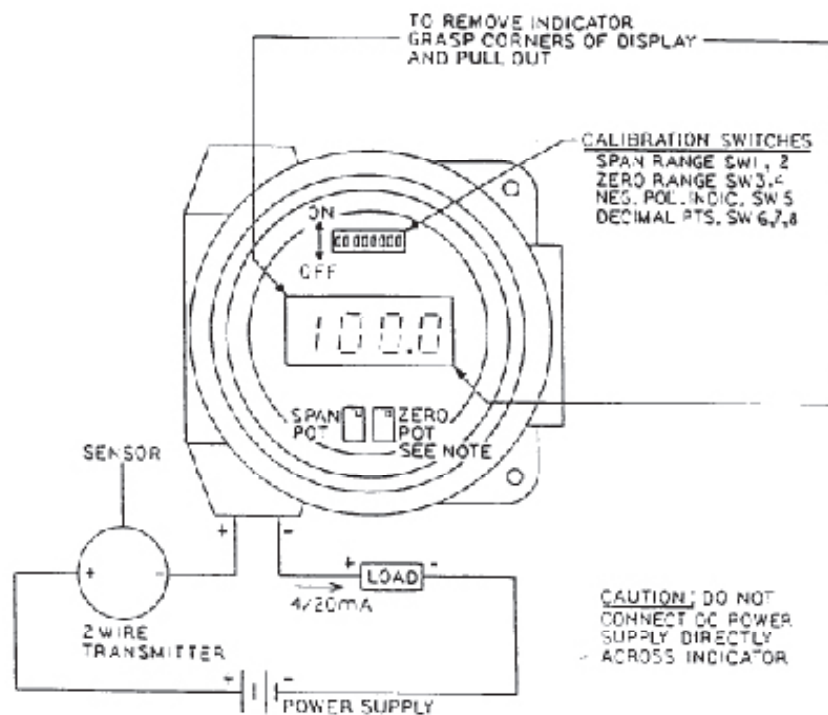

Fig. 2 Typical Field Wiring Connections and Location of Calibration Switches and Pots
To calibrate the LPM200, remove the front cover and label to expose the calibrating switches, and the span and zero pots located on the top PC board (Figs. 2 and 3). Input a 4 to 20mA signal and calibrate the indicator as follows:
1. Set the calibrating switches (Fig.2) for the desired span and offset ranges as described in the preceding section